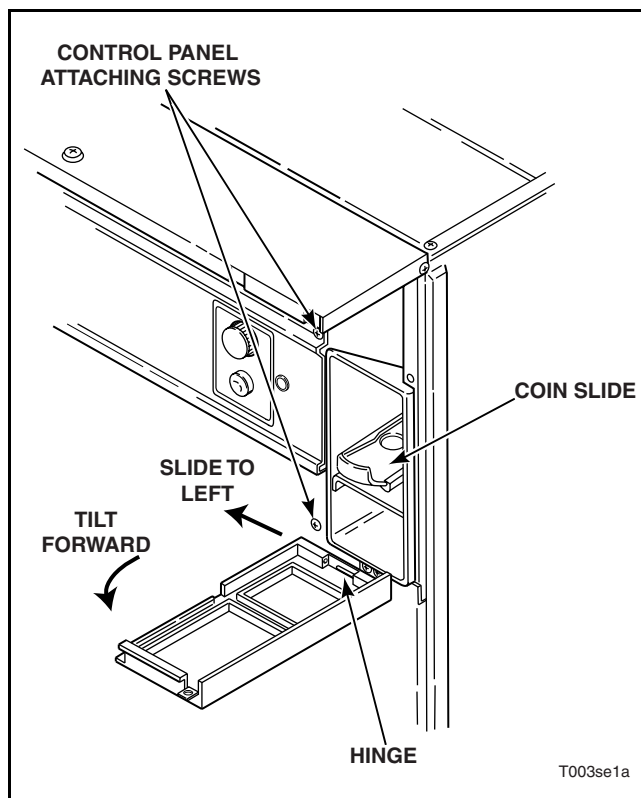

Figure 2
- (2) Pull top of escutcheon forward and slide escutcheon to the left to remove it from hinge pin. Refer to *Figure 2*.
- (3) Remove two screws holding control panel to cabinet.
- (4) Lift control panel off top edge of front panel and pull it forward just far enough to disconnect wire harness at the plug.